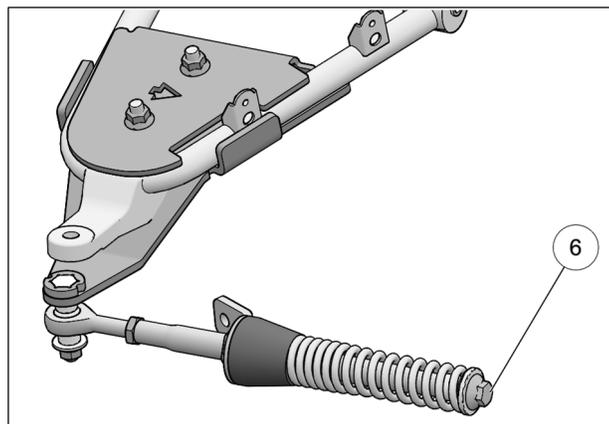

Fig. 21
- Verify that spring assembly bolt (6) is tightened to the recommended torque specification: 75 N•m [55 lb•ft]. Refer to Fig. 21